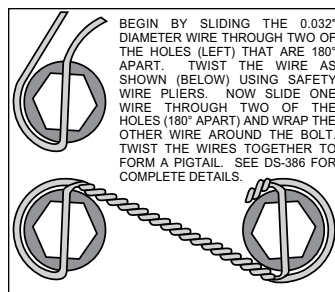

Figure 3.
STEP 3 Pack the large inner bearing cone (8) with high temperature disc brake bearing grease (available from your local auto parts store) and install into the backside of the hub (7).
STEP 4 Install the grease seal (9) by pressing into the backside of the hub (7).
STEP 5 Attach rotor adapter plate (10) to rotor (11) using bolts (12). Apply red *Loctite*® 271 to the bolt threads and torque to value shown in Figure 1 using a criss-cross pattern. For an added measure of security, the bolts may be safety wired using standard 0.032 inch diameter stainless steel safety wire as shown in Figure 3. Please refer to Wilwood's data sheet DS-386 (available at www.wilwood.com/Pdf/DataSheets/ds386.pdf) for complete safety wire installation instructions. **NOTE:** Raised side of adapter plate (10) should face hub (7). The flat side of the rotor (11) should face the adapter plate (10) as shown in Figure 1.